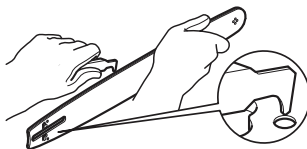

Fig. 48
- > Check the drive sprocket (22). If it is worn or damaged due to strain, have it replaced by an authorised service agent.
- > Clear residue from the rails on the guide bar (4) using a screwdriver, putty knife, wire brush or other similar tool. This will keep the oil passages open to provide proper lubrication to the bar (4) and chain (3) (Fig. 48).